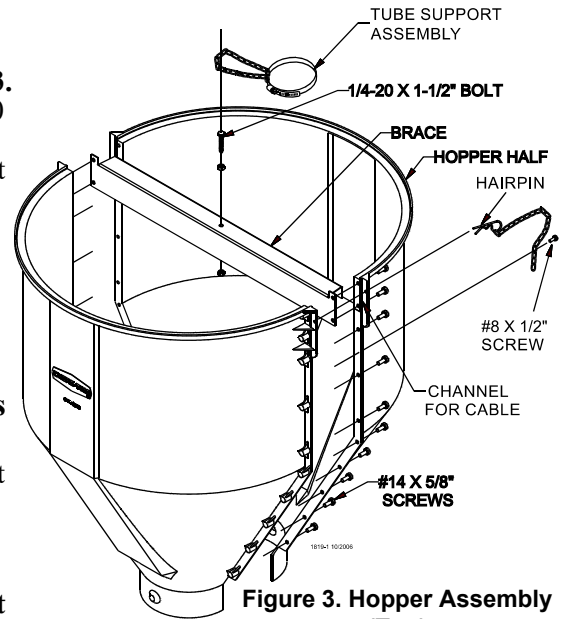

Figure 3. Hopper Assembly (Top)
1. If hopper assembly was ordered with lower hopper switch, assemble the switch to the machined hopper half. See Figure 3.